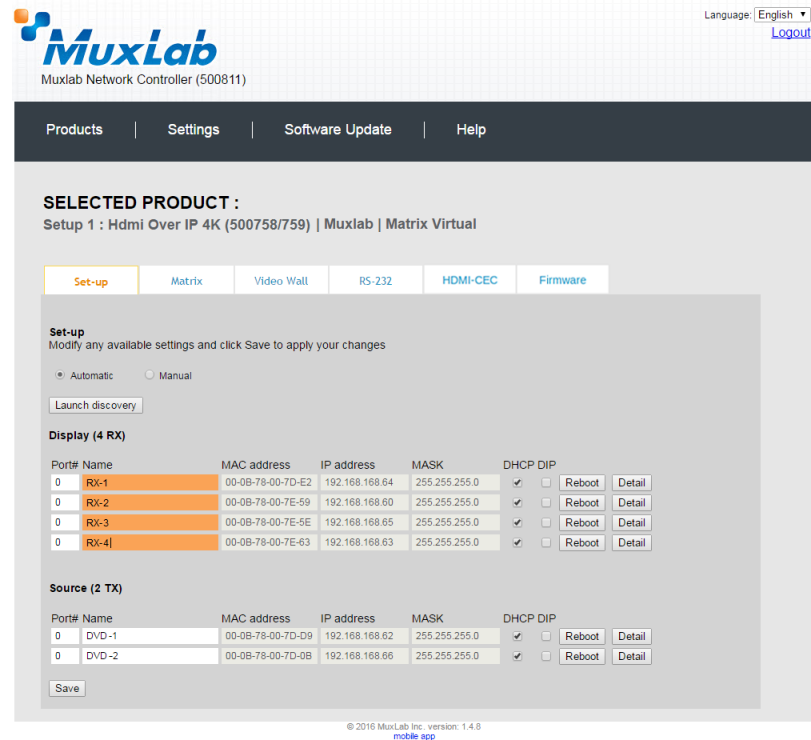

Figure 239: Name Editing
Each 500759 transmitter and receiver can be assigned an arbitrary descriptive name, normally reflecting the end device that it is terminated to. To change the name of any Display (RX) or Source (TX) device, click the **Name** field to edit its contents. Several **Name** fields can be edited before saving changes, as shown in Figure 239 (orange highlighted fields).